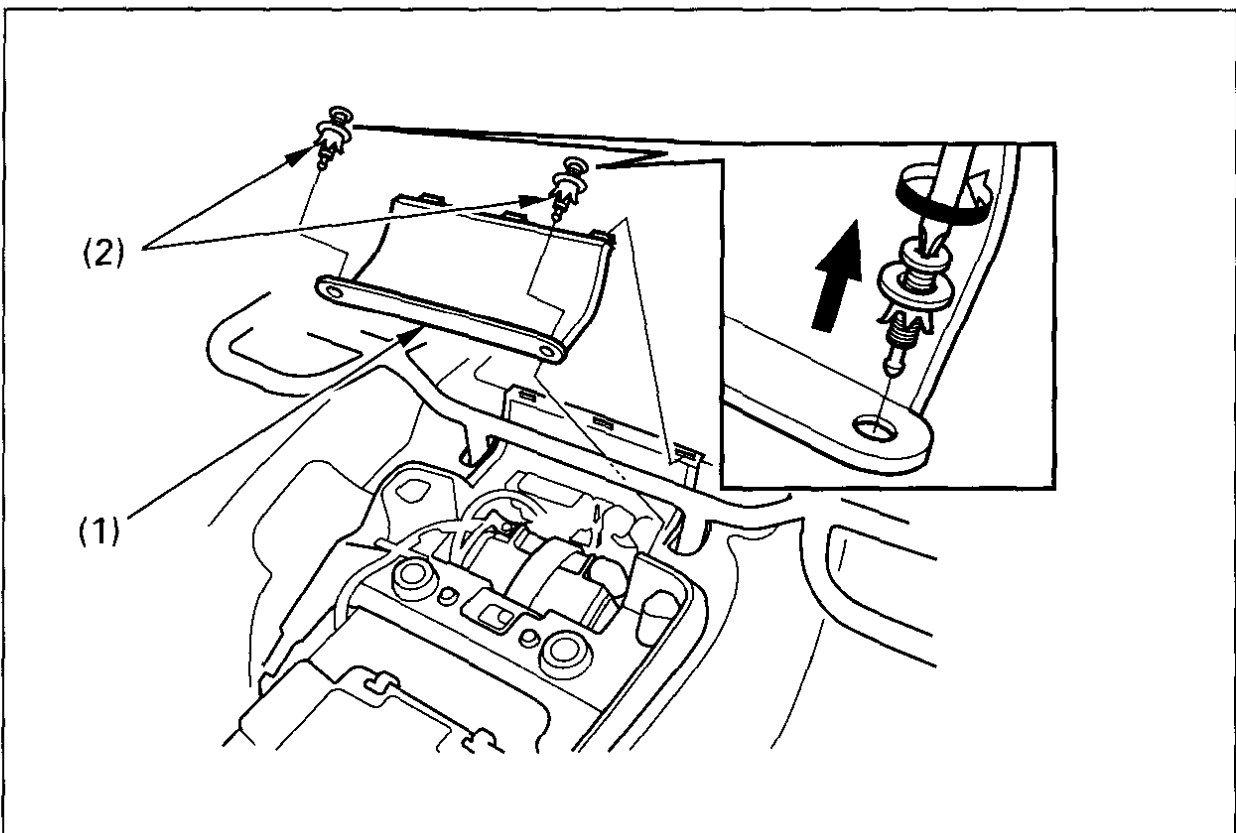

Fig.4-18
3. To remove the rear fender lid (1), remove the clips (2) (Fig. 4-18).